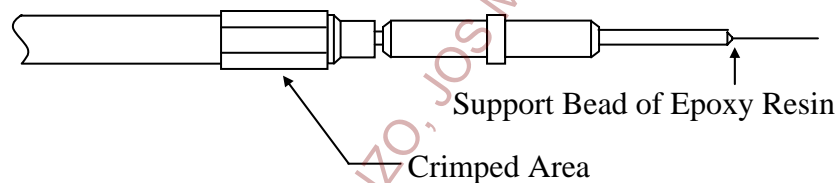

Figure 6 Resin Support Bead
- 2.5.7 Apply a **SMALL** bead of epoxy resin to the front of the optical face of the contact (where the fibre emerges), to support the fibre during the curing and polishing processes. See figure 6.